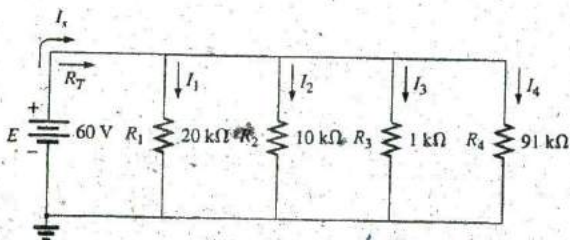

FIG. 6.82
12. For the parallel network in Fig. 6.82: